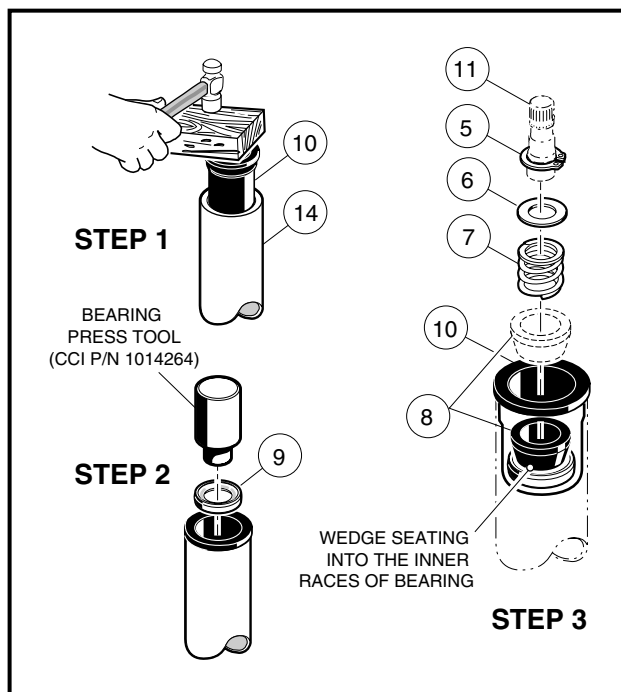
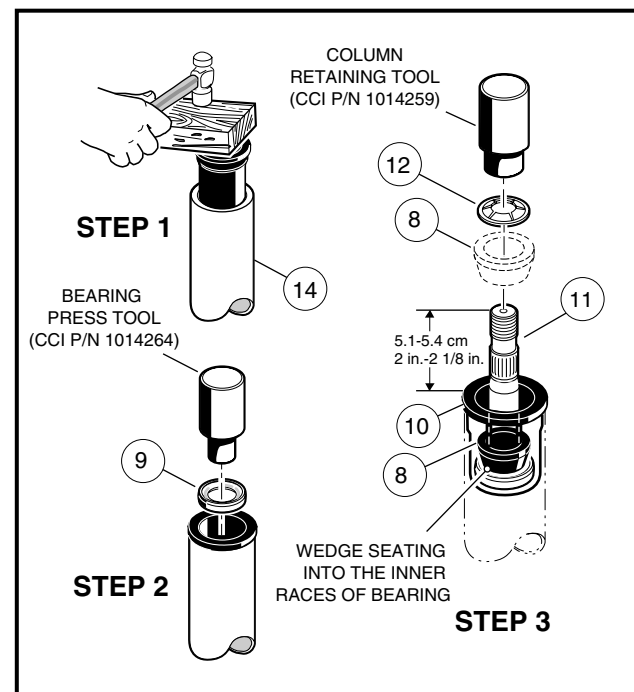

Figure 7-5 Steering Shaft—Bottom End
Figure 7-6 Steering Shaft—Top End
1. Insert bearing seat (10) into both ends of steering tube (14). Place a block of wood on bearing seat and tap lightly on block until bearing seat (10) is fully seated in steering tube (14) (**Figure 7-5, Page 7-6 and Figure 7-6, Page 7-6**).
2. Press the bearing (9) all the way into the bearing seat (10) using a steering column bearing press tool (CCI P/N 1014264) or a metal tube approximately six inches (15.2 cm) long with a maximum outer diameter of 1-3/16-inches (3.3 cm) and a minimum inside diameter of 7/8-inch (2.2 cm). Be sure the bearing is installed in the bearing seat as shown (**Figure 7-5, Page 7-6**) so the wedge (8) will ride against the inner race of the bearing.
3. Install the wedge (8), spring (7), washer (6) and snap ring (5) onto the bottom end of the steering shaft (11) (**Figure 7-5, Page 7-6**).
5. Turn the assembly over and place the shaft (11) on a bench. Install the wedge (8) and retaining ring (12) onto the top of the shaft. Be sure the prongs on the retaining ring face up and away from the wedge. Use a steering column retaining ring tool (CCI P/N 1014259) to seat the retaining ring to the proper depth. Support end of tube while pressing. If you do not have the recommended tool, use the same tube as was used in step 2 to press the retaining ring onto the top of the shaft. The retaining ring should be pressed onto the shaft until 2 to 2-1/8 inches (5.1-5.4 cm) of the shaft extends from the top of the bearing seat in the steering tube (**Figure 7-6, Page 7-6**).